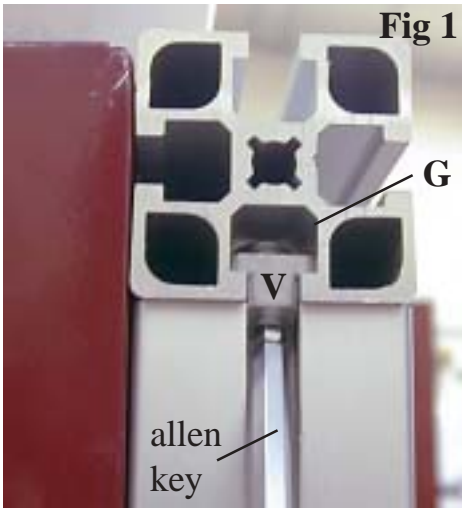
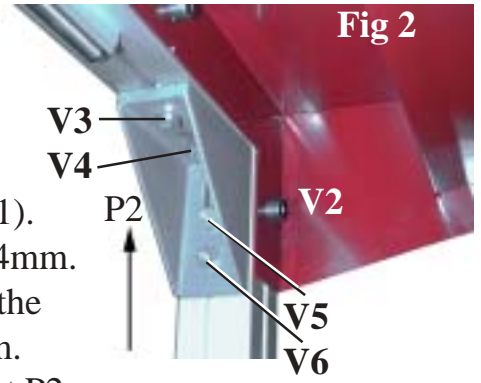

Fig 1
Fig 2
Remove the screw V that is underneath and at the end of the automatic stop (Fig.2). Fix the support foot at the end of the automatic stop, by sliding its male part V into the rail G (Fig 1). Tighten V with an Allen key #4mm.
Now, (see Fig.2) fix and tighten the screw V2 with an Allen key 6mm. Now, bring the square attachment P2 up to underneath of Automatic stop after having removed its 2 screws V3 and V4, then tighten it with these two same screws and tighten the screws V5 and V6 (with an Allen key 5mm).